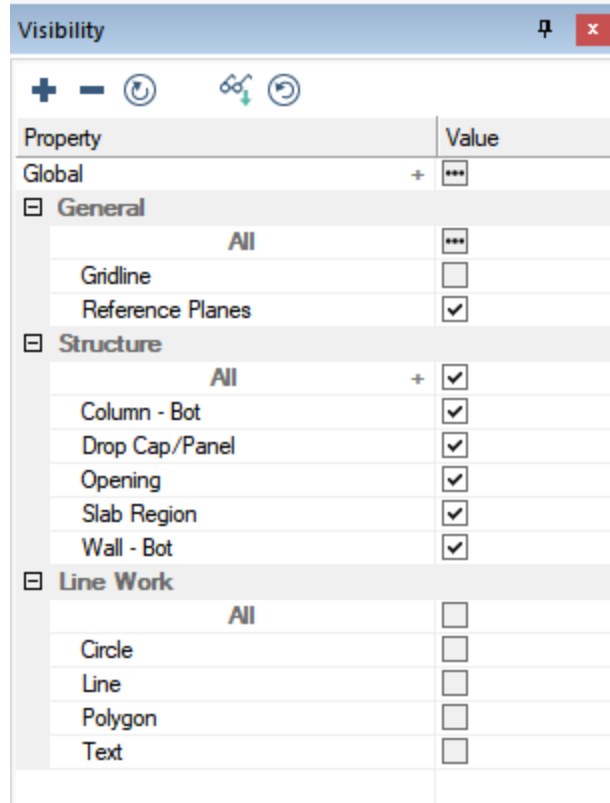

FIGURE 5-21
- On the *Visibility Grid*, click the check box next to **All** in the *Structure* section. This will check all structural components as shown in **FIGURE 5-21**.